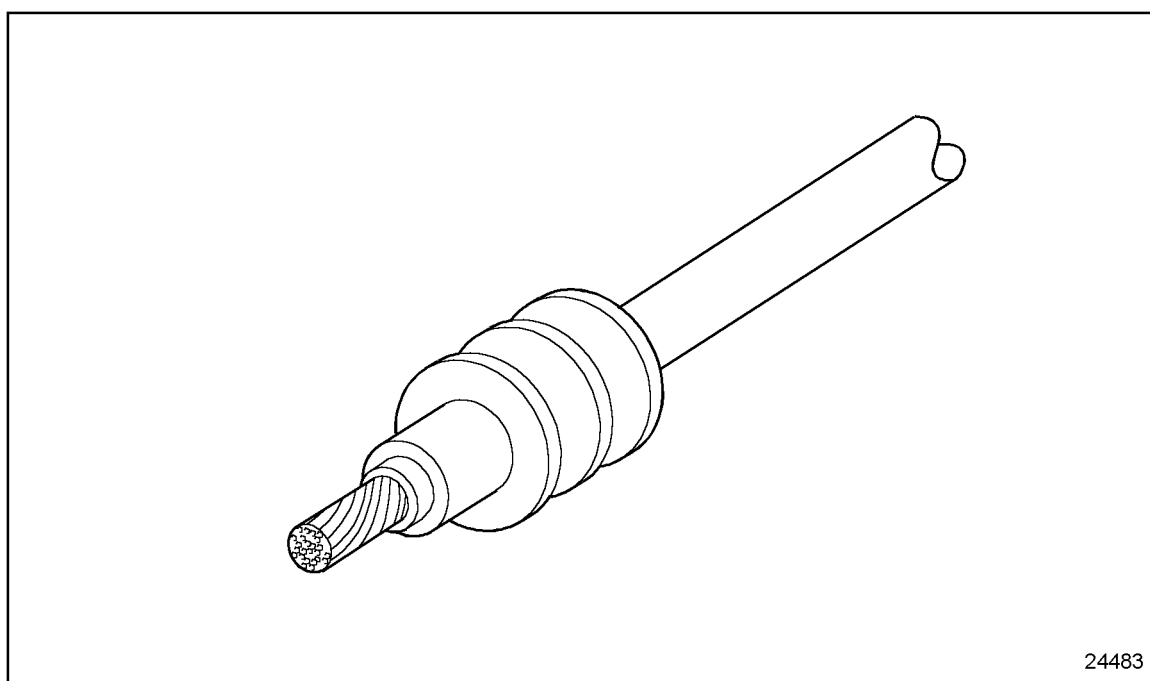

Figure 8-10 **Seal Positioning**
1. Position a seal on each terminal lead so 5.0 ± 0.5 mm (0.20 ± 0.02 in.) conductor and 1.0 ± 0.1 mm (0.05 ± 0.005 in.) cable protrudes past the seal after being stripped. See Figure 8-10.